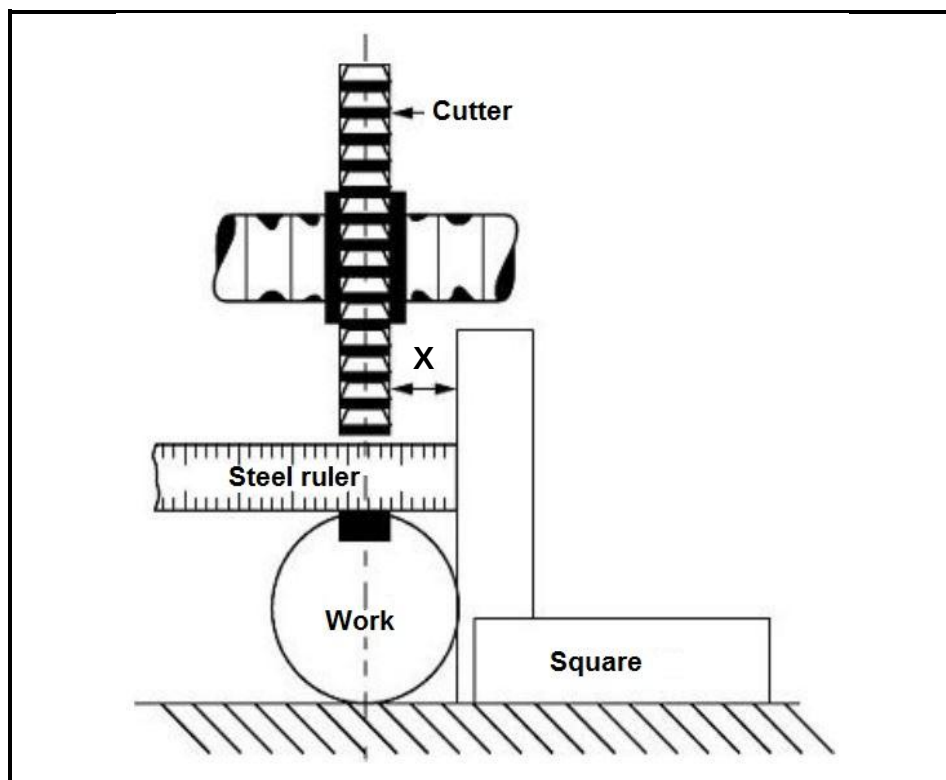

FIGURE 5.6
5.6 A 12 mm milling cutter must be centred on a 60 mm diameter work piece by using the steel ruler method on a milling machine as shown in FIGURE 5.6 below. Calculate **X** in order to centre the milling cutter. (3)